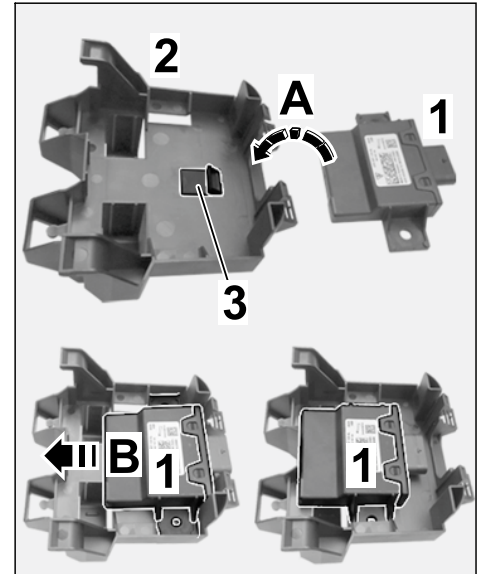

Figure 12
2.4 Insert new engine noise control unit at the underside in the control unit holder (⇒ *Figure 12-A-*).